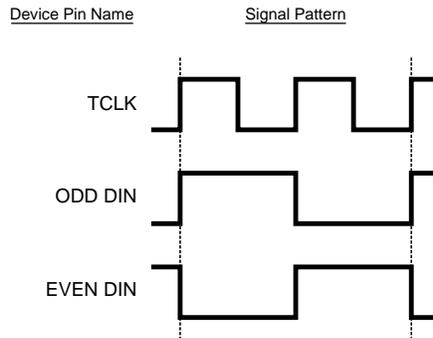
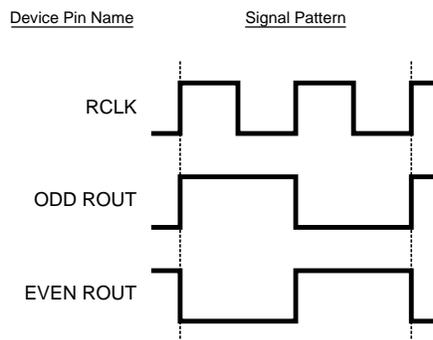
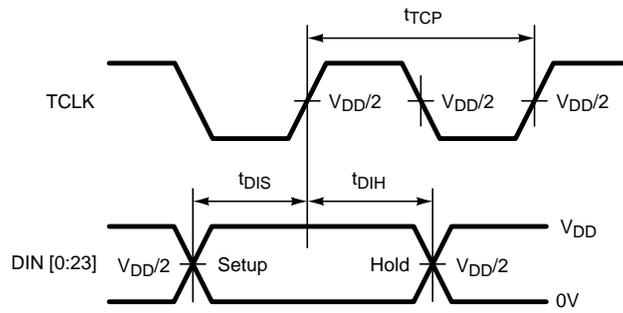
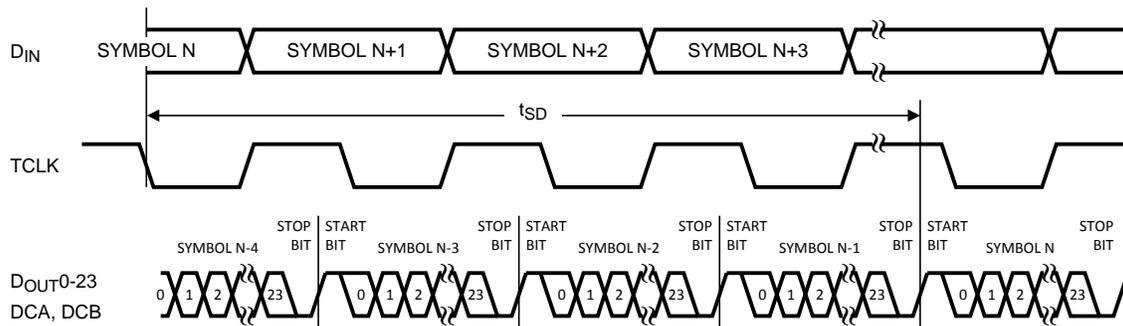

Figure 1. Serializer Input Checkerboard Pattern
Figure 2. Deserializer Output Checkerboard Pattern
Figure 5. Serializer Setup/Hold Times
Figure 8. Serializer Delay
(4) Figure 1, Figure 2, Figure 8, Figure 12 and Figure 14 show a falling edge data strobe (TCLK IN/RCLK OUT).
(1) Figure 5, Figure 15 and Figure 16 show a rising edge data strobe (TCLK IN/RCLK OUT).
(2) Specification is guaranteed by characterization and is not tested in production.
(3) t_{JIT} (@BER of 10e-9) specifies the allowable jitter on TCLK. t_{JIT} not included in TxOUT_E_O parameter.
- (1) Specification is guaranteed by characterization and is not tested in production.
- (2) Figure 5, Figure 15 and Figure 16 show a rising edge data strobe (TCLK IN/RCLK OUT).
- (3) When the Serializer output is at TRI-STATE the Deserializer will lose PLL lock. Resynchronization MUST occur before data transfer.
- (4) Figure 1, Figure 2, Figure 8, Figure 12 and Figure 14 show a falling edge data strobe (TCLK IN/RCLK OUT).
- (5) t_{JIT} (@BER of 10e-9) specifies the allowable jitter on TCLK. t_{JIT} not included in TxOUT_E_O parameter.
- (6) UI – Unit Interval, equivalent to one ideal serialized data bit width. The UI scales with frequency.
- (7) TxOUT_E_O is affected by pre-emphasis value.
(3) Figure 1, Figure 2, Figure 8, Figure 12 and Figure 14 show a falling edge data strobe (TCLK IN/RCLK OUT).
(4) t_{DSR} is the time required by the Deserializer to obtain lock when exiting powerdown mode.
(5) RxIN_TOL is a measure of how much phase noise (jitter) the Deserializer can tolerate in the incoming data stream before bit errors occur. It is a measurement in reference with the ideal bit position, please see AN-1217 (SNLA053) for detail.
(6) UI – Unit Interval, equivalent to one ideal serialized data bit width. The UI scales with frequency.